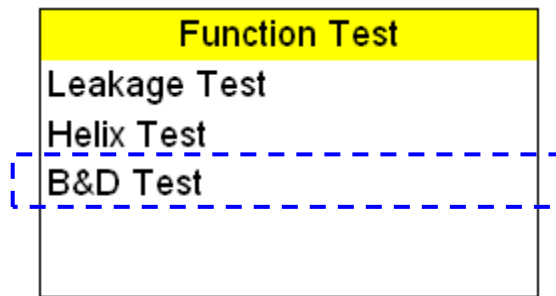

Figure 96
- D. Press  or  button to select B&D Test program (Figure 96).